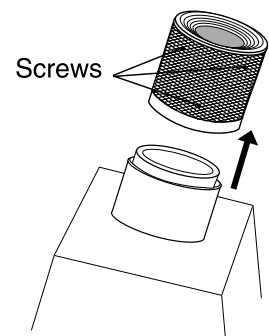

Figure 9-14
- ② Loosen all 4 screws, then pull up and remove the part Figure 9-14.